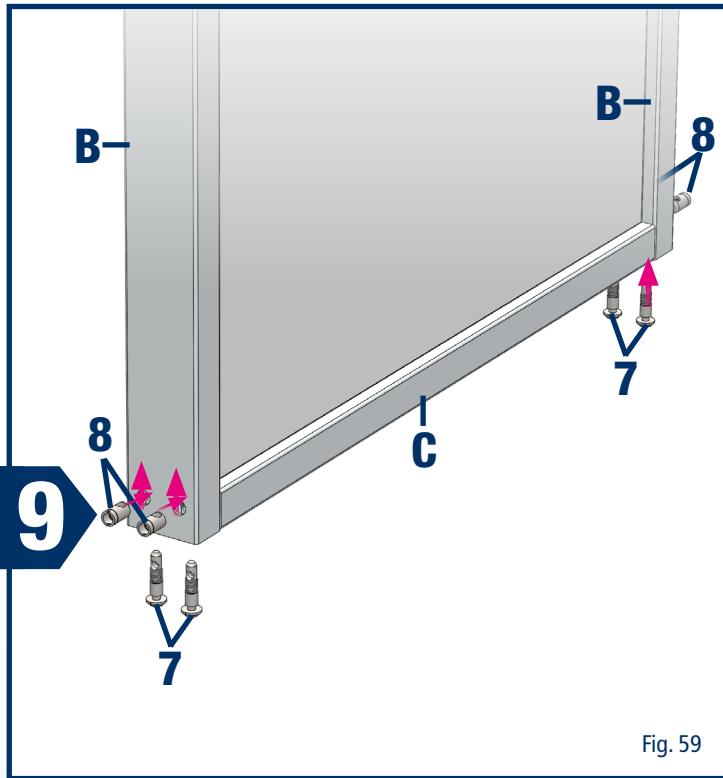

Fig. 59
Check whether the straight anchors (Fig. 51, item 7) and the cross-pieces (Fig. 51, item 8) are installed on the bottom end of the profiles 40x80x840 (Fig. 59, item B). If not, please install them.